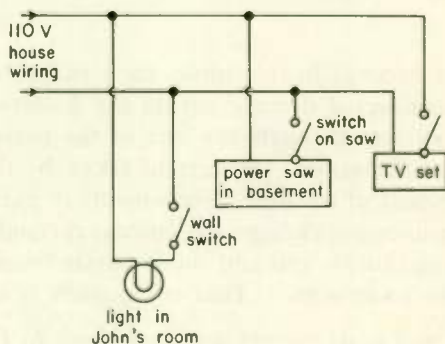

Fig. 6
1. In Fig. 6 a light, a power saw, and a TV set are operating from the 110-V house wiring. The three devices are connected in (a) (series) (parallel). Turning on or off any one of the devices (b) (does) (does not) affect the operation of the other two devices. This is proof that the current drawn by a device is unaffected by other devices connected in (c) (series) (parallel) with it. Hence, to find the current taken by a component or device connected across a constant-voltage source, such as a battery or the 110-V main, you (d) (must consider) (need not consider) the current taken by other components or devices in parallel.
2. If the TV set in Fig. 6 has an equivalent resistance of 55Ω , then the set draws a current of (a) 2 amperes. If the power saw has an equivalent resistance of 20Ω , it draws (b) 5.5 amperes from the 110-V supply. If the lamp filament has a resistance of 110Ω , it draws (c) 1 ampere(s) from the line. The total current drawn from the house line in Fig. 6 when all three devices are in use is therefore (d) 8.5 amperes.